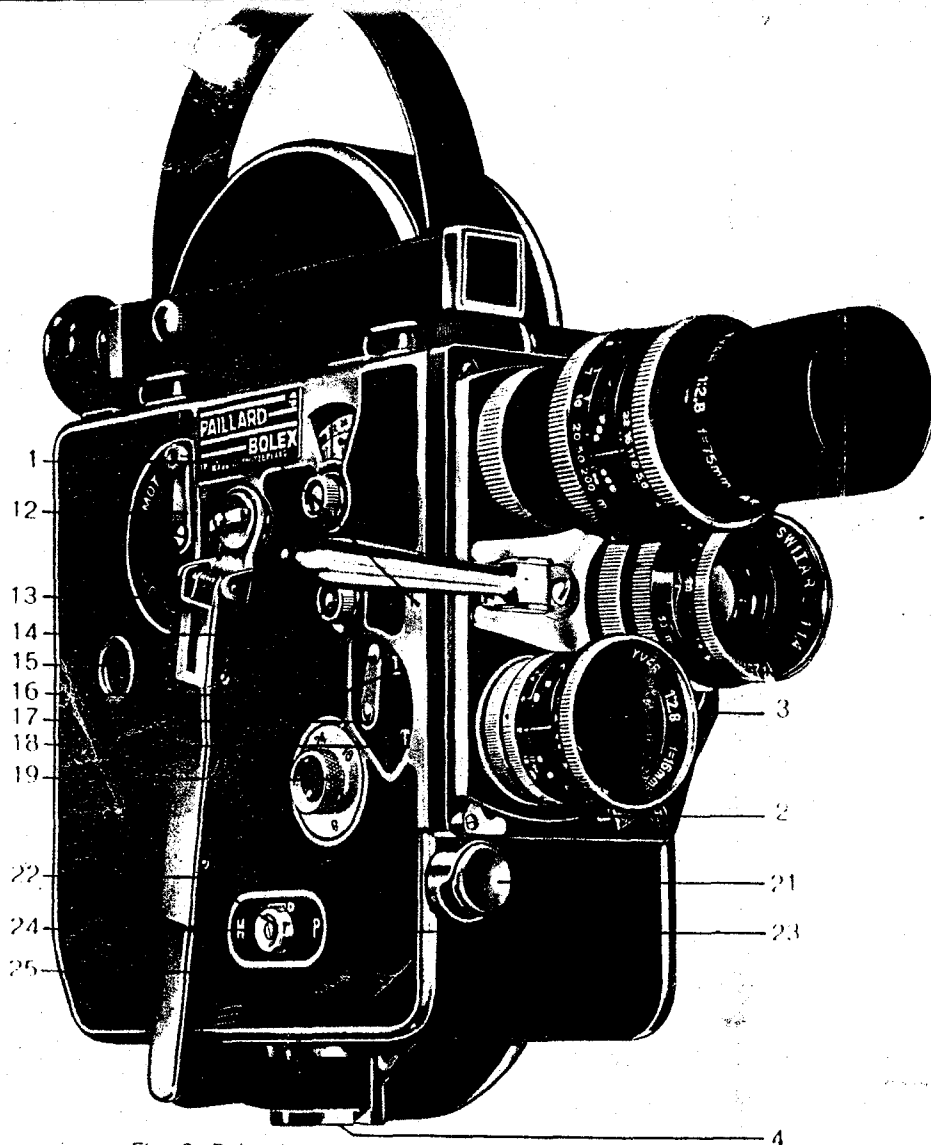

Fig. 2. Bolex H 16 Standard Movie Camera.
1. Make sure that the operating button (22) on the side of the camera is set to STOP (Fig. 2), the clutch lever (12) is on MOT and the speed control (19) set to 16 or 24 frames per second, i.e. that the figure 16 or 24 is opposite the red mark.
2. Wind up the motor fully by means of handle (25). Cease winding as soon as the stop is reached.